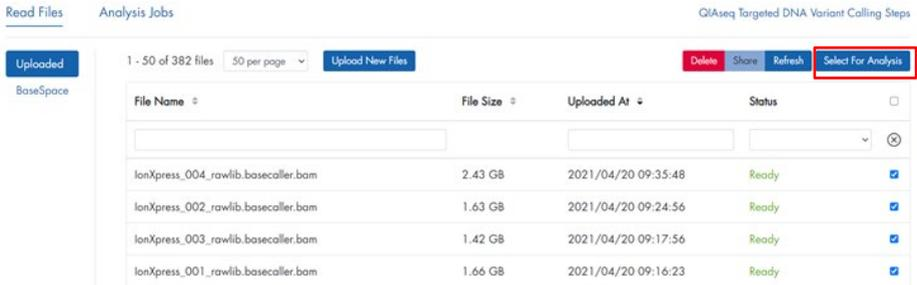

Figure 28. File selection for QIAseq Targeted DNA Pro data analysis pipeline.
5. Select the boxes next to the files that will be analyzed, and then click **Select For Analysis** (Figure 28).